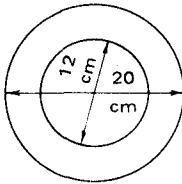

Fig. 1.36
**Example.** Find the area of the figure shown in Fig. 1.36. (This figure is known as an annulus.)